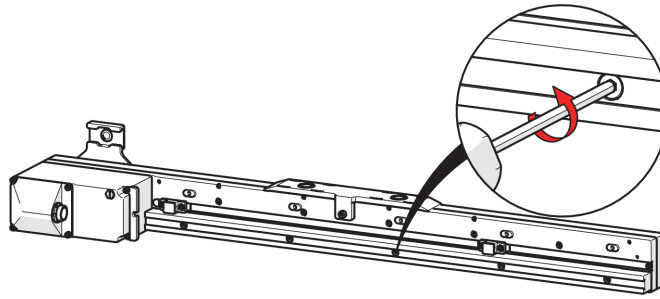

Figure 2-45 Remove raster arm mounting rail
2. Loosen all the captured screws from the raster arm mounting rail (see Figure 2-45 on page 79).